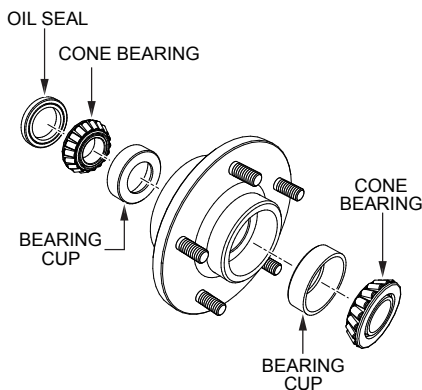

Figure 47. Wheel Hub and Bearings
1. After **every 3 months** of operation, remove the hub dust cap and inspect the wheel bearings (Figure 47). Once a year, or as needed, disassemble the wheel hubs and remove the old grease. Then repack the bearings, forcing grease between the rollers, cone and cage with a good grade of high-speed wheel bearing grease. **NEVER** use grease heavier than 265 ASTM penetration ('No. 2').
2. Fill the wheel hub (Figure 47) with grease to the inside diameter of the outer faces and also fill the hub grease cap.